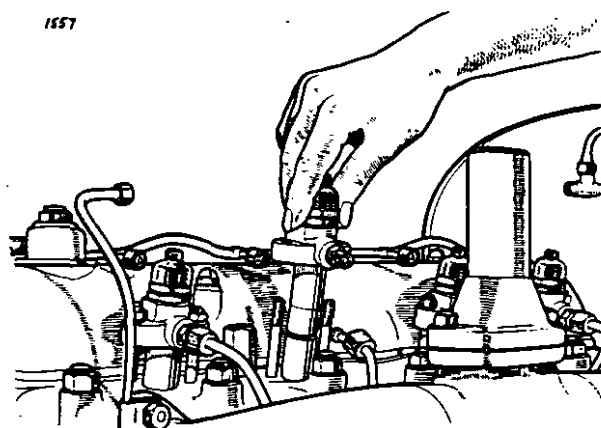

Figure 28. INJECTOR REMOVAL
2. Disconnect and remove leak-off pipe (Fig. 28.)